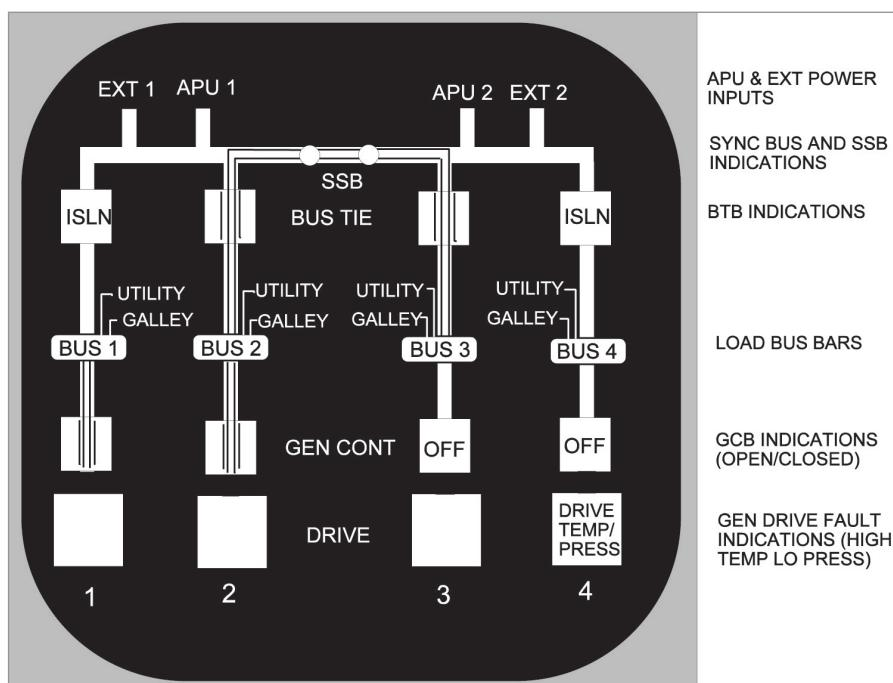

*Figure 13.5 Parallel alternator operation*
*Figure 13.5* illustrates a four generator paralleled system. This system allows various combinations of alternator operation. Operation of the system begins with the excitation of the alternator field which will bring its output within the limits required before operation of the GCB can occur.
If a single alternator failure occurs with a system similar to that shown in *Figure 13.5*, then opening of the associated GCB will allow its paired alternator to feed the loads of both of them. However, this would place a larger load upon that alternator than is being carried by the pair on the other synchronizing bus bar.